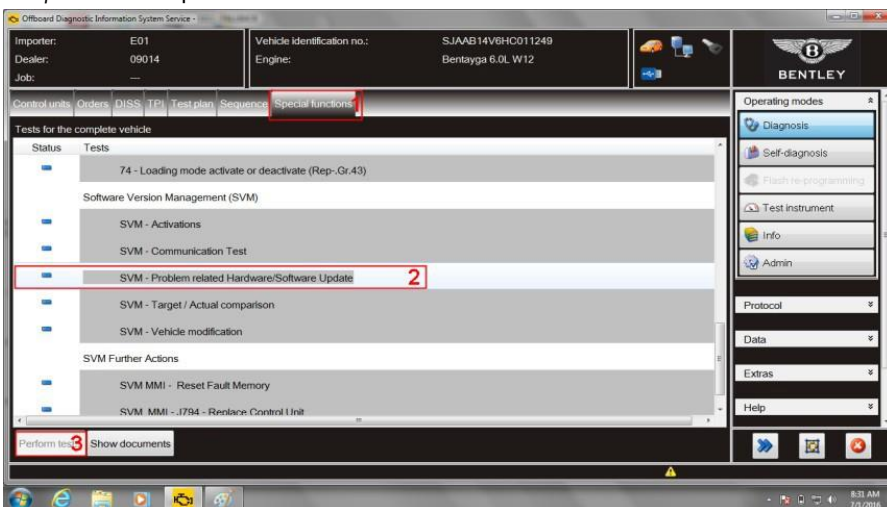

Figure 2
8. Select *Special functions* (1), Select *SVM – Problem related Hardware/Software Update* (2), Select *Perform test* (3) (see Figure 2)